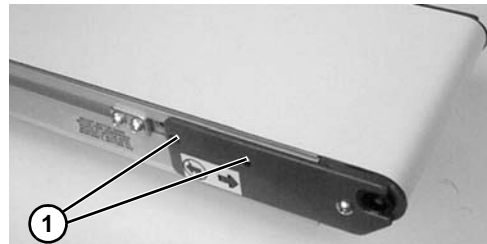

Figure 9
2. Locate drive mounting position and remove two (2) screws (**Figure 9, item 1**).